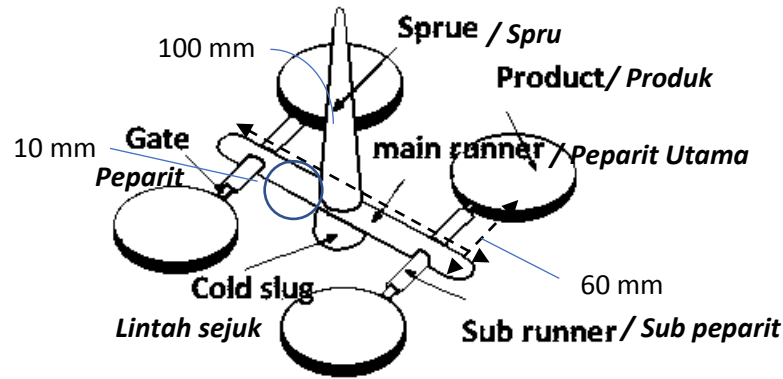

Figure 4 Mould layout
- (c). Four polypropylene (PP) products, each weighing 10 g are to be moulded using the runner layout shown in Figure 4. If the injection time is 0.5s, calculate the total volume flow rate and mass flow rate. Given the density of the polypropylene is 0.91 g/cm^3 , diameter for the 1st runner, 2nd runner and gate are 6 mm, 4 mm and 1.5 mm, respectively, and the volume of the sprue is 5000 mm^3 . Give two (2) assumptions on the issue given.